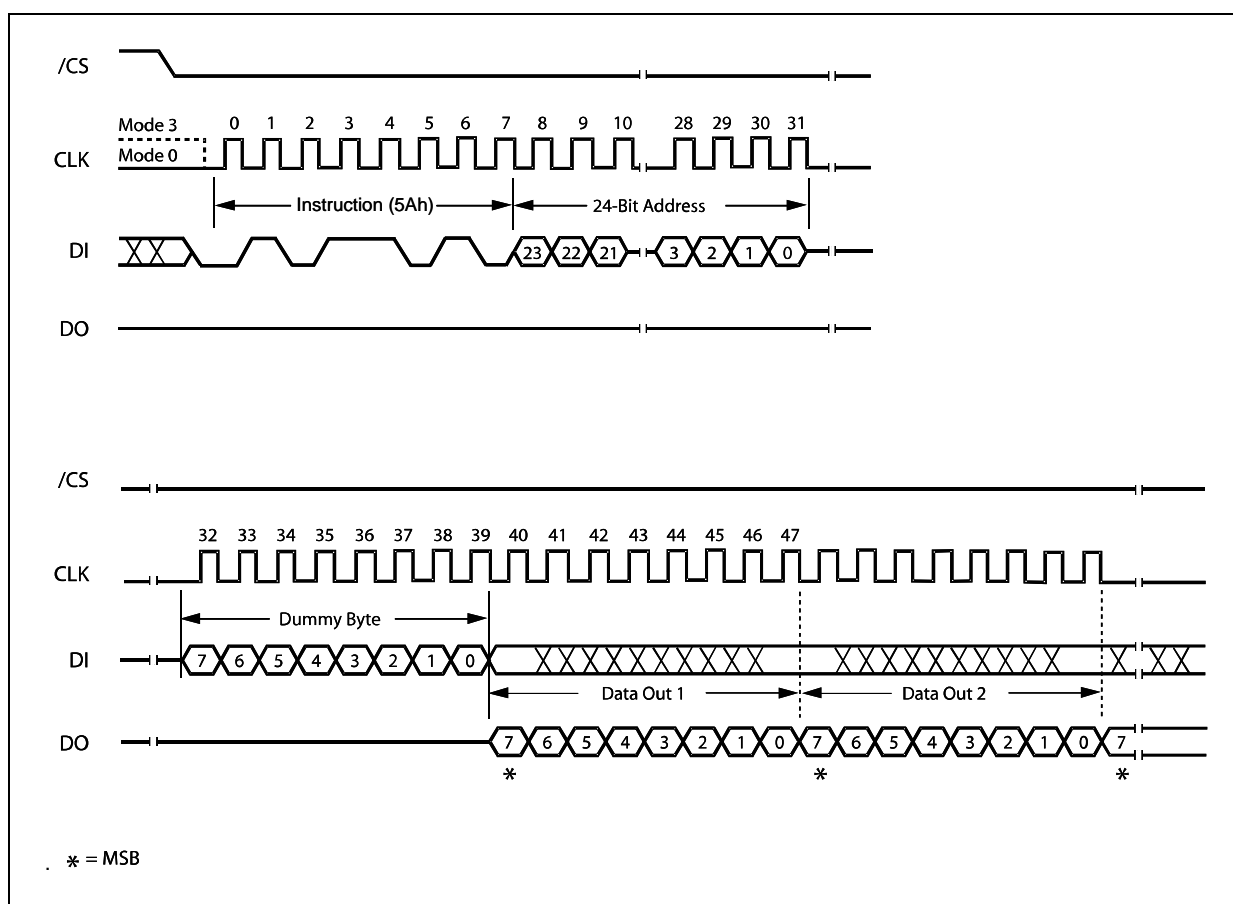

Figure 34b. Read SFDP Register Instruction Sequence Diagram
The Read SFDP instruction is initiated by driving the /CS pin low and shifting the instruction code "5Ah" followed by a 24-bit address (A23-A0)(1) into the DI pin. Eight "dummy" clocks are also required before the SFDP register contents are shifted out on the falling edge of the 40th CLK with most significant bit (MSB) first as shown in figure 34b. For SFDP register values and descriptions, please refer to the Winbond Application Note for SFDP Definition Table,